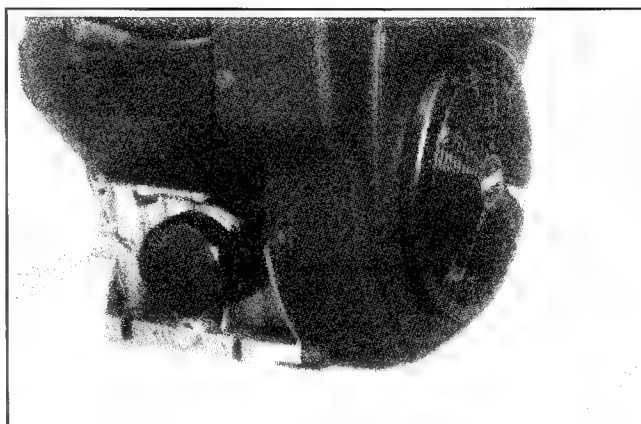

Figure 6-4. Location of Oil Drain on Oil Filter Side.
2. Remove one of the oil drain plugs. A drain plug is located on either side of the crankcase; one is below the oil filter, and the other is below the starter. See Figure 6-4.